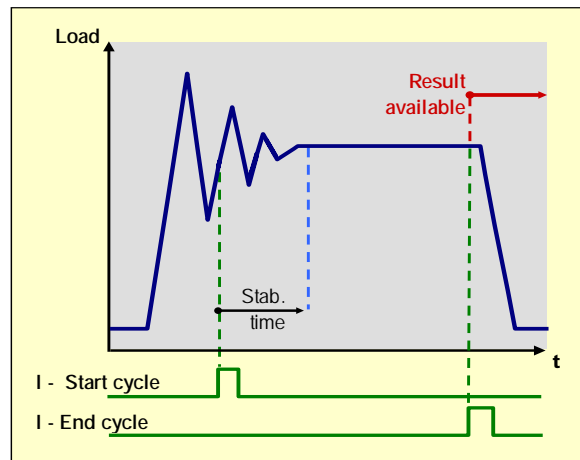

Fig. 5
- a duration prior to an edge on an input assigned to 'stop checkweigher cycle' (Fig.5).